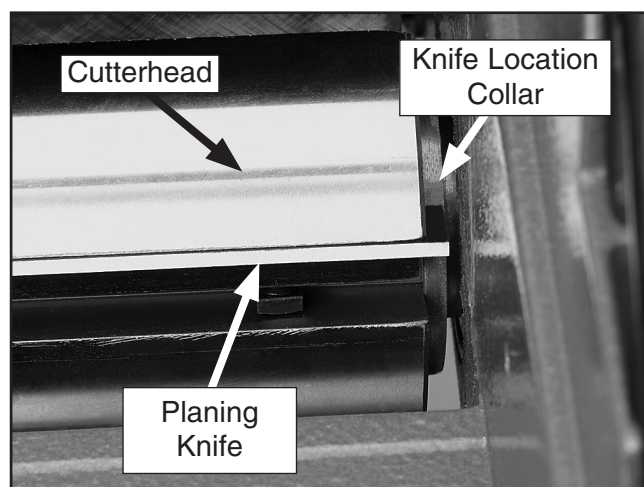

Figure 24. Knife location collar.
8. Align the planing knife so that it rests evenly on both knife location collars, as shown in **Figure 24**.